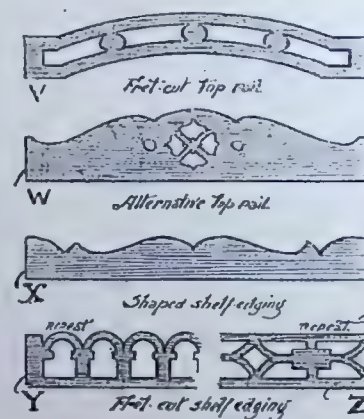

FIG. 5.—FURTHER DETAILS.
or $\frac{5}{8}$ inch, moulded as shown, or simply bevelled with a couple of mortises through each to receive corresponding tenons on the uprights (O). As shaping and details of the kind go far to give character to a screen such as this the few alternative hints offered (Fig. 5) may come in handy. V as a top rail can be $2\frac{1}{4}$ inches to 3 inches wide. W may be fret cut with neat effect to finish $4\frac{1}{2}$ inches wide. X gives a repeat shaping $1\frac{1}{2}$ inch wide, useful as shelf edging, or, if preferred, the front and ends of shelf may be edged with a fret such as Y or Z to finish $1\frac{1}{2}$ inch wide. The lettered and dimensioned list of parts detailed below will be found serviceable for ready reference, note being made that all lengths are full to include joints and allow of paring to a fit, but all widths and thicknesses are net finished sizes.